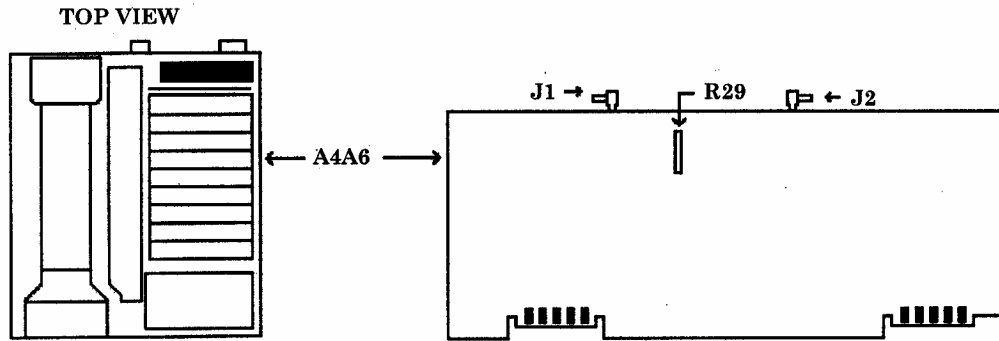

Figure 9. A4A6 board.
- (3) Set TI **LINE** switch to **ON**.
- (4) Press TI keys as listed in (a) through (h) below:
(5) Adjust A4A6R29 (fig. 9) to align markers on TI display. **MKR Δ** level should indicate 1.00X.
- (63) Disconnect 89 (gray/white) cable from A4A6J1 (fig. 9).
- (64) Connect 97 (white/violet) cable to A4A6J1 (fig. 9).
- (65) Press TI keys as listed in (a) through (e) below:
(66) Adjust TI **DATA** knob to position trace at (or just below) reference level (top) graticule line.